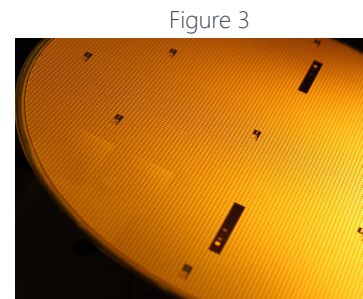

Figure 3
- The nearly monochromatic pink light easily shows a very small stepper focus spot (Figure 3).